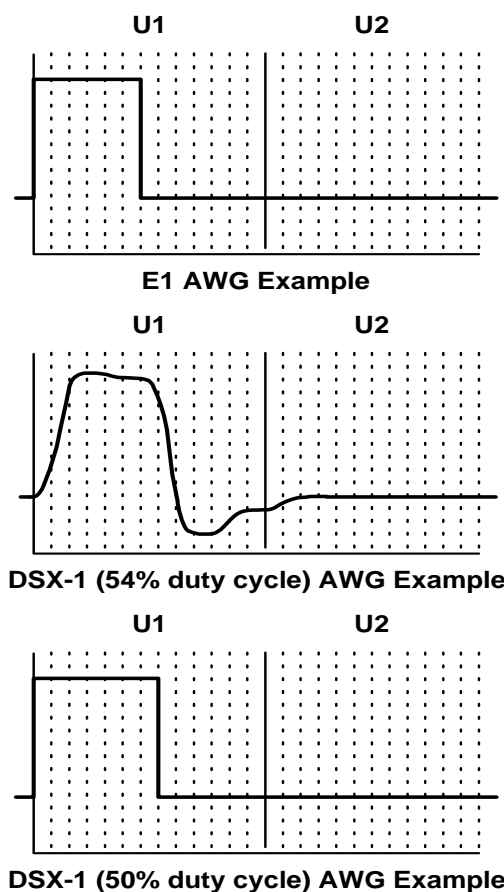

Figure 14. Arbitrary Waveform UI
In the AWG RAM, the pulse shape is divided into two unit intervals (UI). For E1 mode, there are 12 sample phases in each UI, while in T1/J1 mode, the number of sample phases per UI are either 13 or 14. The first UI is for the main part of the pulse and the second UI is for the “tail” of the pulse (Refer to Figure 14). A complete pulse-shape is represented by 24 phase samples in E1 mode or 26/28 phase samples in T1/J1 mode. In E1 mode, data written in the first UI represents a valid pulse shape, while data in the second UI is ignored and should be set to zero.